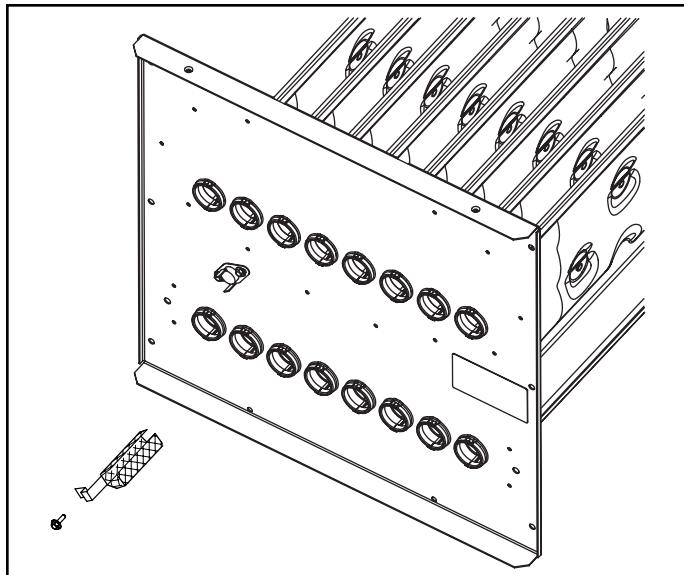

Figure 21. A80US2V NO_x Inserts
- NOX units only - Remove screw securing NOX insert. Remove NOX insert. See Figure 21.